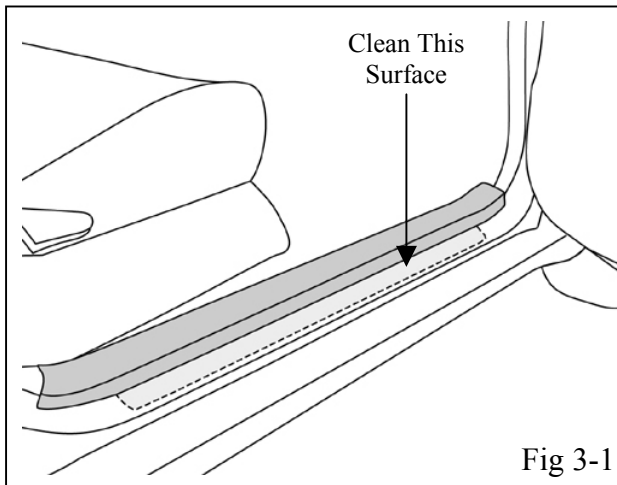

Fig 3-1
- (a) Clean the factory painted metal sill surface with cleaner specified on Page 1. Dry surface with a clean, non-scratch cloth. (Fig. 3-1)